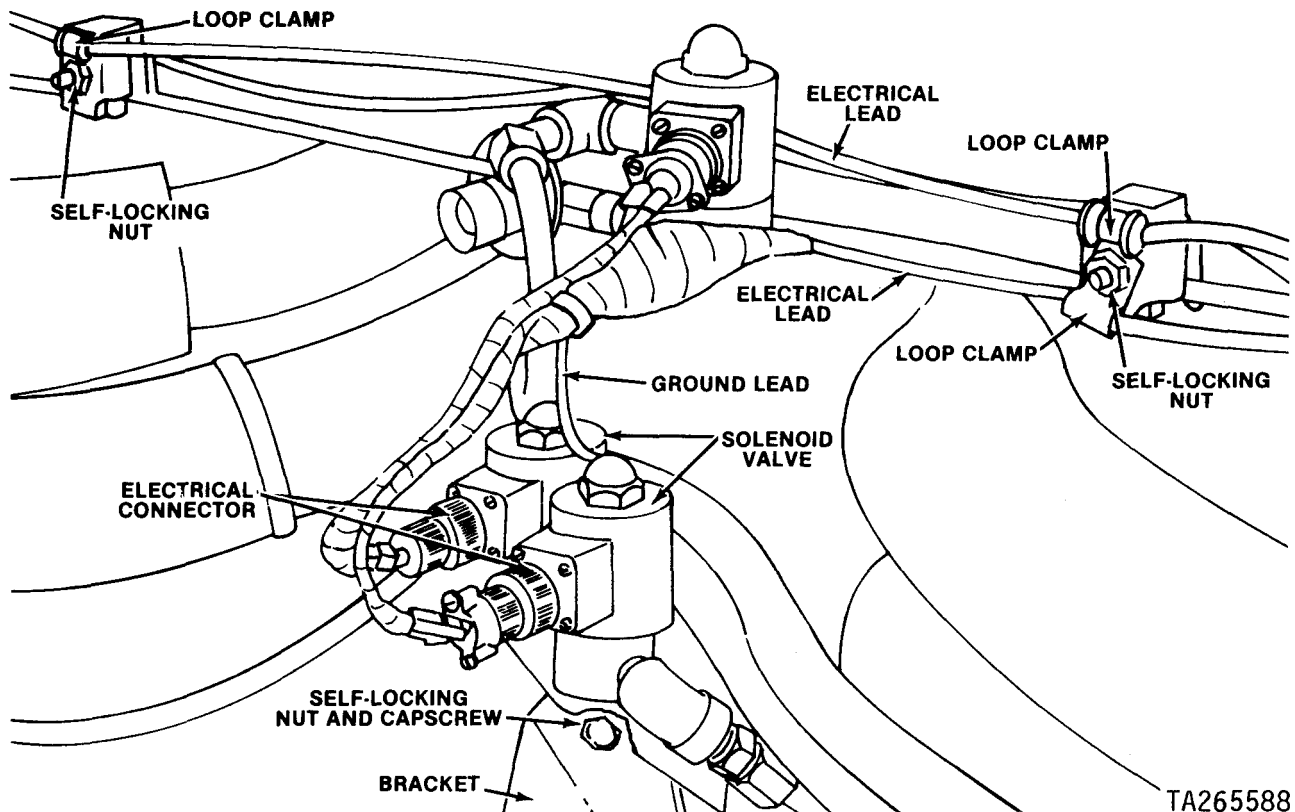

Figure 4-8 Removing or Installing Smoke and Dust Detector Electrical Cable
- (4) Remove two self-locking nuts (fig. 4-8) and two loop clamps. Remove two clamps from electrical leads. Disconnect two electrical connectors from solenoid valves. Remove self-locking nut and capscrew securing ground lead to solenoid valve bracket.
(4) Install two loop clamps (fig. 4-8) on electrical leads. Secure loop clamps to capscrews with two self-locking nuts. Connect electrical connectors to solenoid valves. Position ground lead behind bracket and secure with capscrew and self-locking nut.